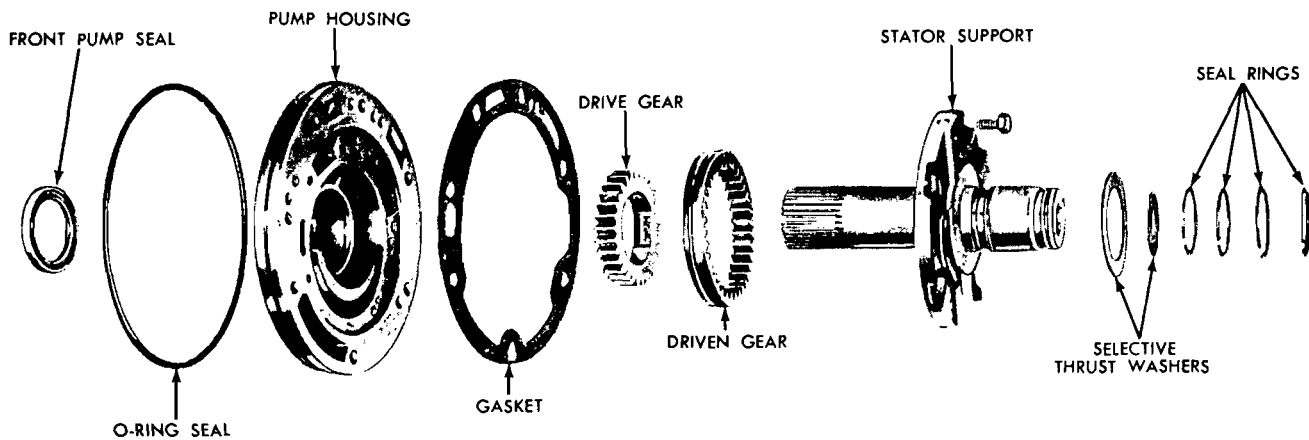

FIG. 74—Front Pump and Stator Support Disassembled
2. Remove the five bolts that attach the stator support to the front pump housing. Remove the stator support from the pump housing (Fig. 74).
10. Install the four seal rings on the stator support. Two large rings are assembled first in the ring grooves toward the front of the stator support. Install the O-ring seal on the pump housing (Fig. 74).